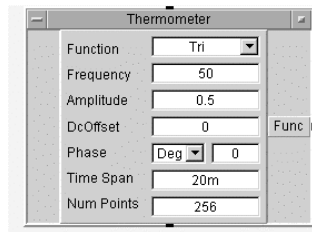

Figure 1.9. Partial program for Lab 1.3
10. Change Frequency to 50 and amplitude to 0.5; see Figure 1.9.